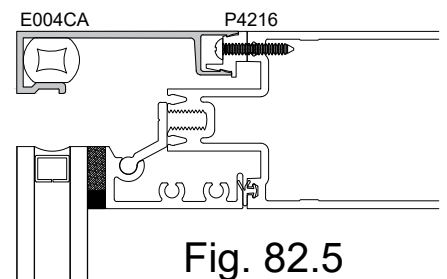

Fig. 82.5
- STEP 3: Using a rubber mallet and piece of wood blocking place E004CA trim over P4216 PVC separator and tap into place until trim snaps over P4216, Fig. 82.5.